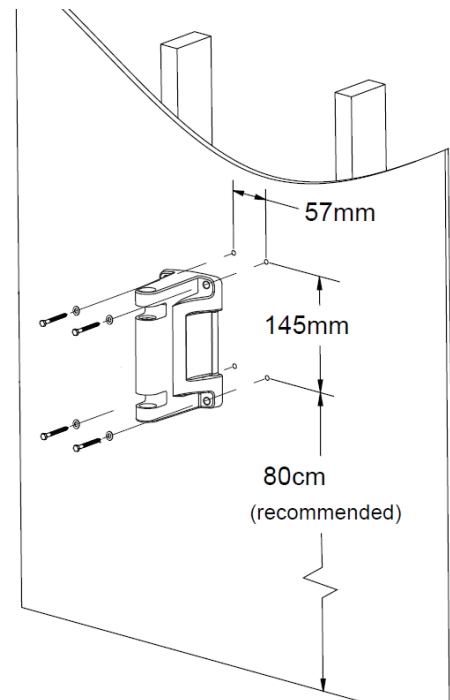

Fig. 3
- Locate the wood stud with using stud finder (not included), then use the bracket (5) as a template to mark the drilling position with marker. It is recommended that the lower holes are 80cm above the floor. (see Fig. 3)
- Connect the inlet hose (6) to the water supply.